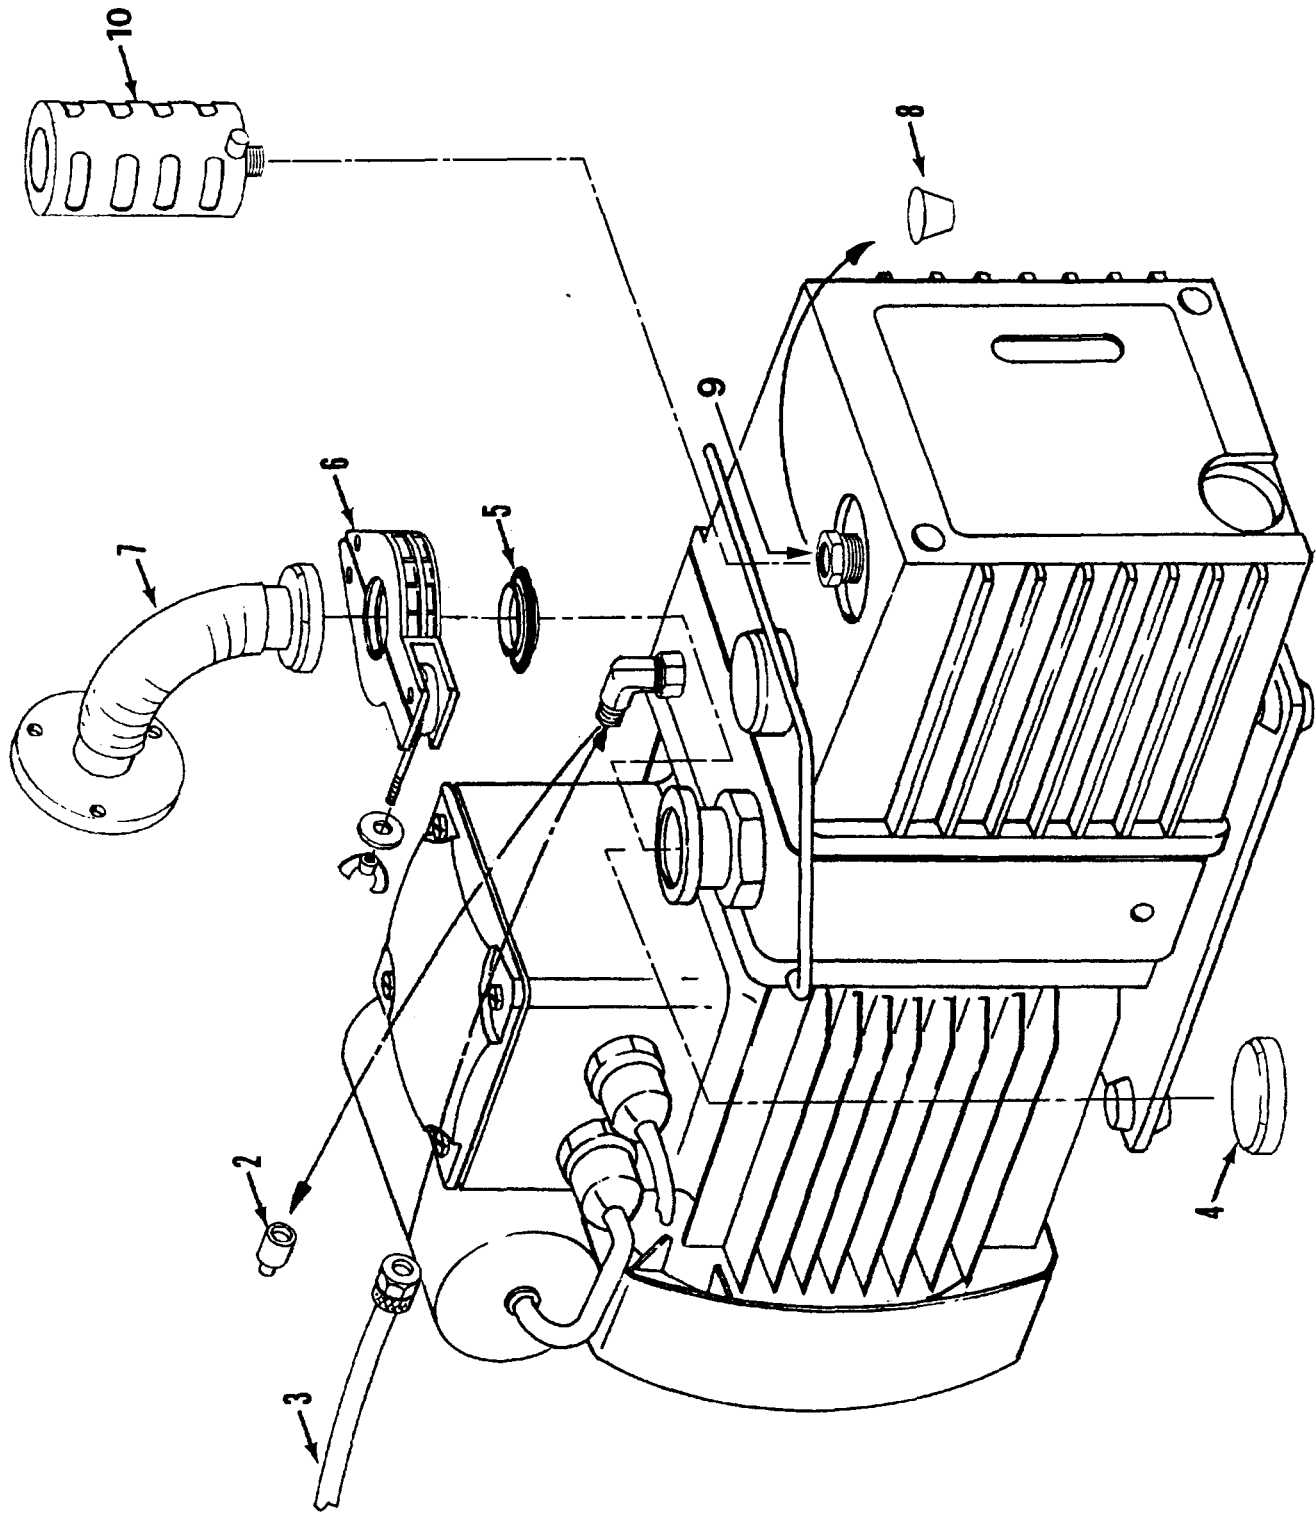

Figure 1-2
The Spectron 600T is shipped without oil in the internal roughing pump, which must be filled prior to use (see the Edwards 600D manual addendum for shipping information specific to the 600D Dry Leak Detector. In addition, to protect the pump during shipment, it is fitted with two blanks that cover its intake and filter connections. Remove these blanks and attach the flex hosing and filter (refer to Figure 1-2 for a diagram illustrating the proper installation for the hose and filter connections). Attach the flex hosing with the provided centering ring and clamp, and thread the exhaust filter into the adaptor on the pump (item 9). Also, the unit's purge tubing (refer to Figure 1-2) is fitted with a 1/4" ferrule blank. Unscrew the blank and reattach the tubing as indicated in Figure 1-2.
#### Parts List for Figure 1-2: